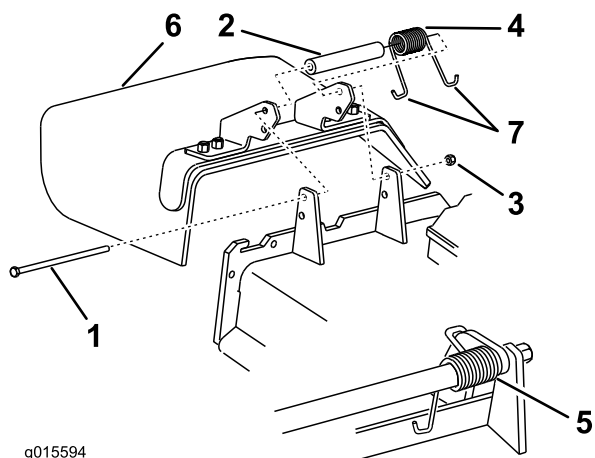

Figure 106
1. Remove the locknut, bolt, spring, and spacer holding the deflector to the pivot brackets (Figure 106). Remove the damaged or worn grass deflector.
Note: Make sure one J-end of the spring is installed behind the deck edge before installing the bolt as shown in Figure 106.
3. Install the bolt and the nut. Place one J-hook end of the spring around the grass deflector (Figure 106).